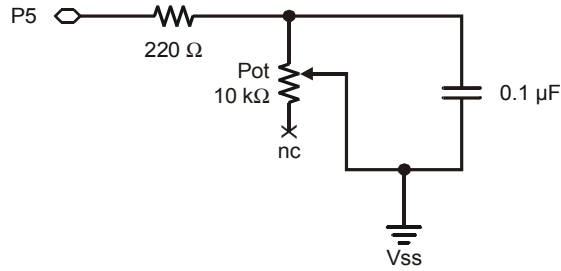
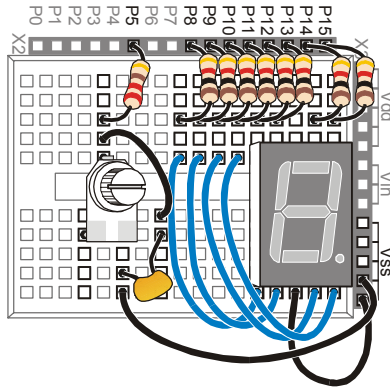

Figure 6-14
Figure 6-15
Figure 6-14 shows a schematic of the potentiometer circuit that should be added to the project. Figure 6-15 shows a wiring diagram of the circuit from Figure 6-14 combined with the circuit from Figure 6-10 on Page 172.
- √ Add the potentiometer circuit to the 7-segment LED display circuit as shown in Figure 6-15.